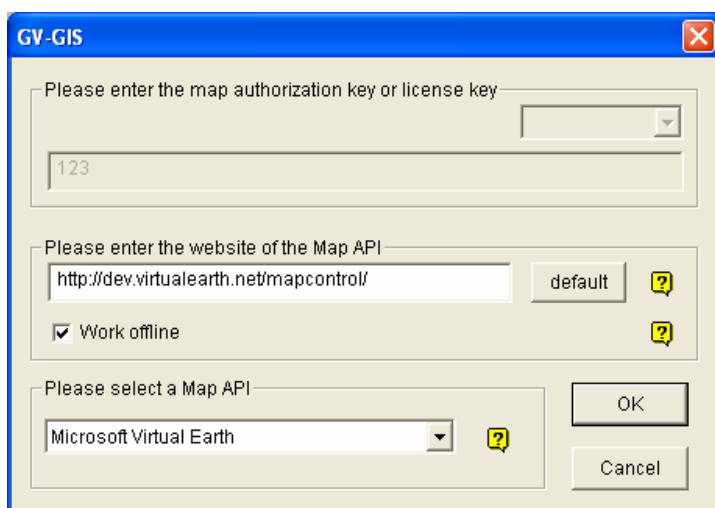

Figure 4-55
1. If you like to use the maps created yourself, overwrite the files at :\\GV folder\\GIShtm-User, and select **User Defined** from the “Please Select a Map API” drop-down list (Figure 4-55).